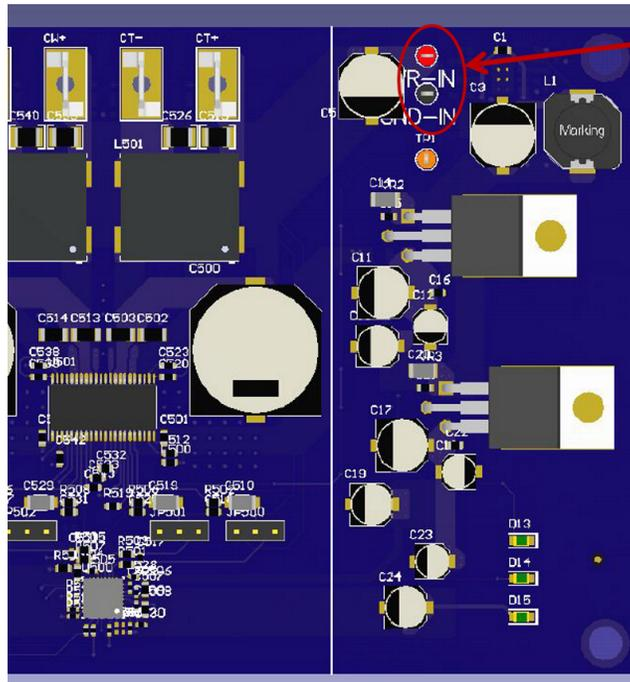

Figure 11. Power Supply Hookup
- a. Connect a 30-V power supply to the amplifier PCB using the connections PWR-IN for +30 V and GND-IN for GND (see Figure 11).